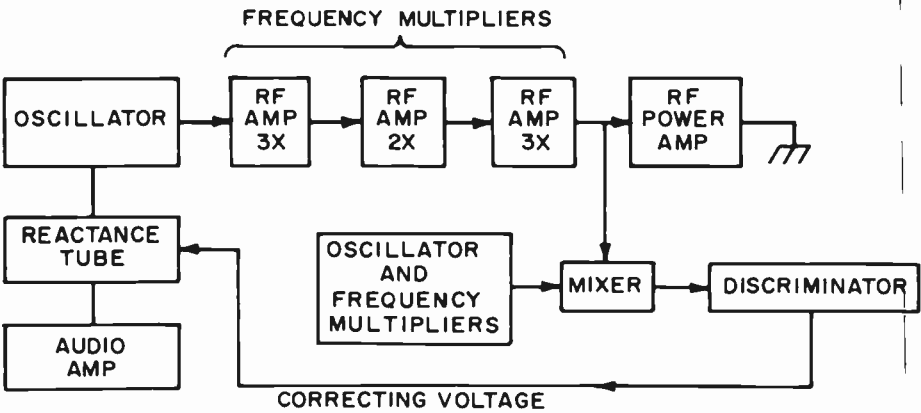

FIG. 16-7. AN FM TRANSMITTER.
**FM TRANSMITTER.** Fig. 16-7 shows a block diagram of a reactance tube FM transmitter. For good stability, we start off with a low frequency oscillator that uses a well-regulated power supply. The FM output of the oscillator is passed through frequency multipliers to increase the frequency up to the desired output frequency of the broadcast station. Frequency multiplication of an FM signal does not destroy or distort the modulation, and the circuitry used is similar to that used in AM frequency multipliers. The output of the last frequency multiplier is then fed to a power amplifier to produce the correct output power.
Since the oscillator is not crystal controlled, we use an automatic frequency control system (AFC) to keep the carrier frequency constant. This is shown in Fig. 16-7. In the AFC system, the output of the frequency multiplier is compared with the output of a crystal oscillator. If the master oscillator has erroneously shifted, a voltage will be produced in the converter-discriminator stages, which is fed back to the reactance tube modulator. This, in turn, corrects the oscillator and sets it to its correct center frequency.